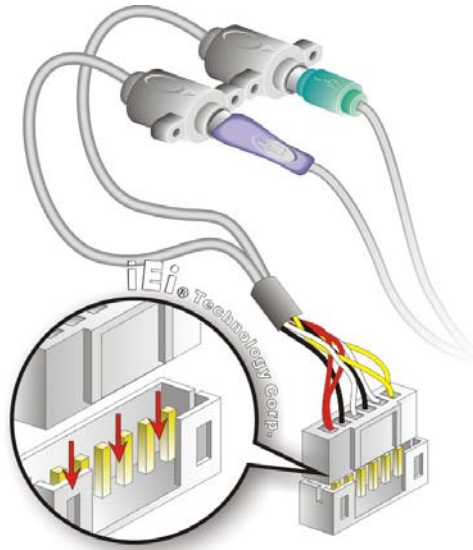

Figure 4-7: Keyboard/mouse Y-cable Connection
Step 4: Align the connectors. Correctly align pin 1 on the cable connector with pin 1 on the PM-945GSE-N270-R11 keyboard/mouse connector. See **Figure 4-7**.
Step 5: Insert the cable connectors Once the cable connector is properly aligned with the keyboard/mouse connector on the PM-945GSE-N270-R11, connect the cable connector to the onboard connectors. See **Figure 4-7**.